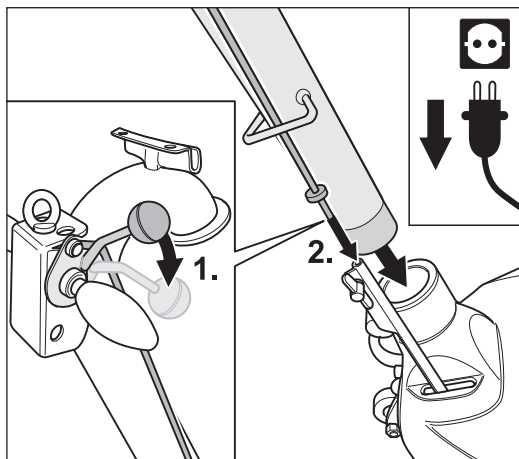

Fig. 2 When inserting the guide tube, make sure that the upper rod of the lowering mechanism feeds in correctly!
- 2 Press the lowering lever at the handle downwards (Fig. 2, 1.).
- 3 Insert the guide tube into the opening in the machine housing and at the same time insert the upper rod into the lower rod (Fig. 2, 2).